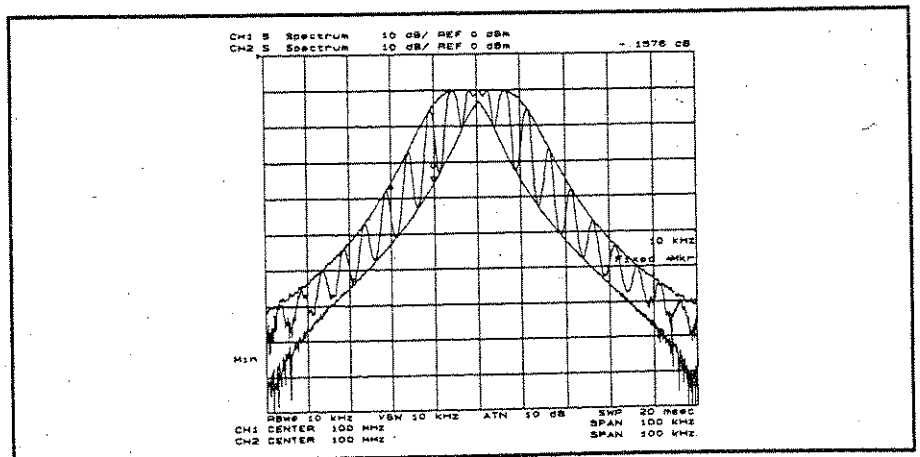

Figure 3-18. Superimposing Spectrum and Envelopes
12. Press **MORE** SPLIT DISP ON off to on OFF. The analyzer superimposes the spectrum on the envelopes as shown in Figure 3-18.